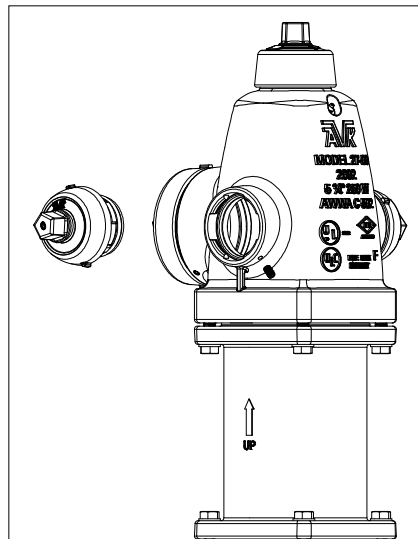

Fig. 6E
4. Loosen the cap, then finish removing the cap/nozzle assembly. (See Fig. 6E)